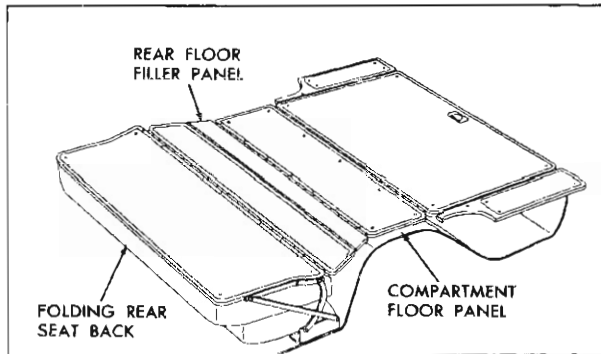

Fig. 17-8 Folding Rear Floor Filler Panel Assembly
2. Remove filler panel to folding seat back attaching screws and filler panel to rear seat pan attaching screws as shown in Fig. 17-8 and remove filler panel from body.